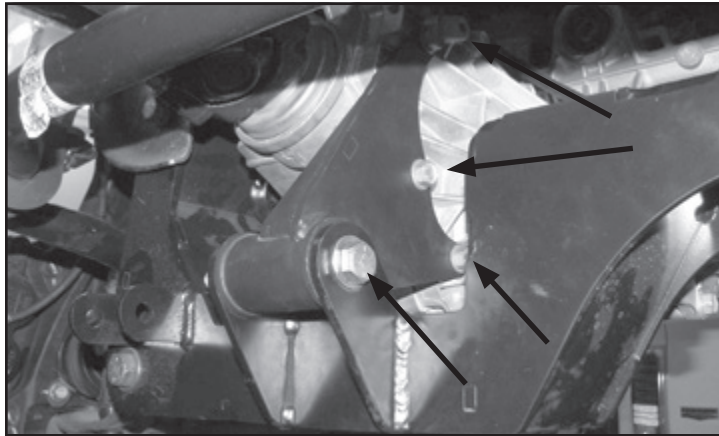

FIGURE 28 - STEP 22
24. Install diff bracket using the factory bolts and the 1/2-13x4 1/2" bolt, nut, and washers. **SEE FIGURE 28**